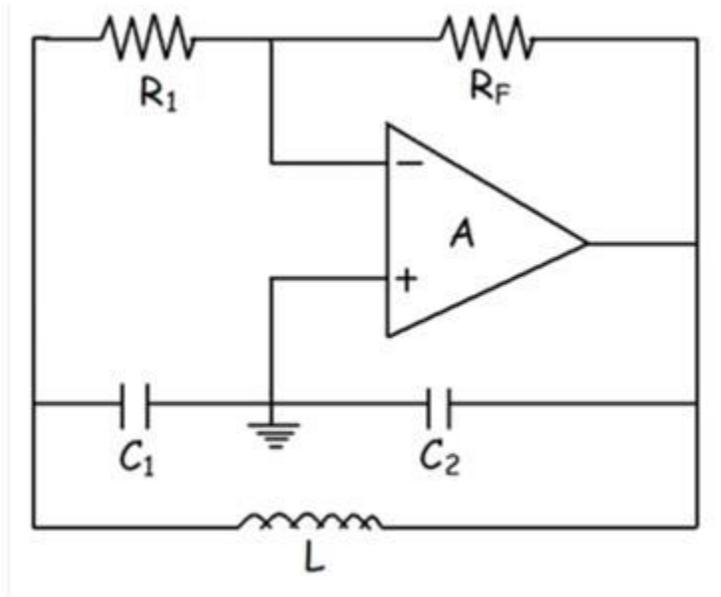

Fig.7-3 Colpits Oscillator
- **Colpitts Oscillator:** The circuit of Colpitts oscillator is shown in Fig.7-3. To start up and oscillate at the resonance frequency the Barkhausen criteria must be satisfied, i.e,